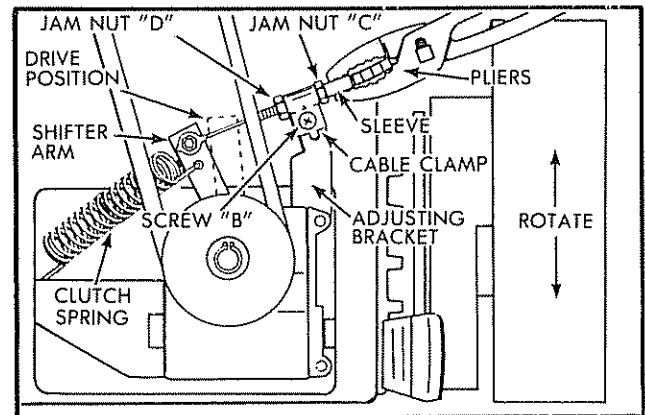

FIG. 17
2. Loosen screw holding cable clamp (See Fig. 17).
3. Loosen screws holding cable clamp "A" & "B" (See Figs. 17 and 21).
4. Loosen both jam nuts "C" & "D" at the cable clamp on the gear case adjusting bracket (See Fig. 17).
5. Unhook clutch spring from shifter arm (See Fig. 17).
8. Hold shifter arm in fully engaged position by pliers as shown in Fig. 17. **DO NOT** pull on control cable.
10. Tighten cable clamp screw "B" (See Figs. 17 and 21).
11. Tighten jam nut "D" up to bracket (See Fig. 17).